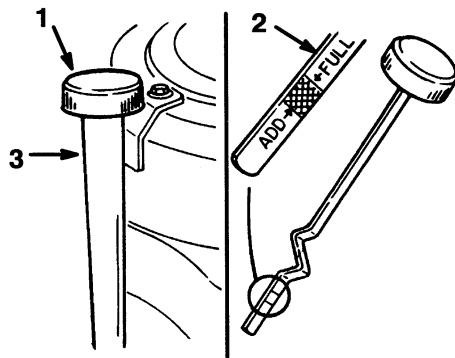

Figure 18
2. Clean around the oil dipstick (Fig. 18) so dirt cannot fall into the filler hole and damage the engine.
3. Unscrew the oil dipstick and wipe the metal end clean (Fig. 18).
4. Slide the oil dipstick fully into the filler tube, do not thread onto tube (Fig. 18). Pull the dipstick out and look at the metal end. If oil level is low, slowly pour only enough oil into the filler tube to raise the level to the "FULL" mark.
5. Slowly pour approximately 80% of the specified amount of oil specified, page 21, into the filler tube (Fig. 18). Now check the oil level; refer to Checking Oil Level, page 22. Slowly add additional oil to bring to "FULL" mark on dipstick.